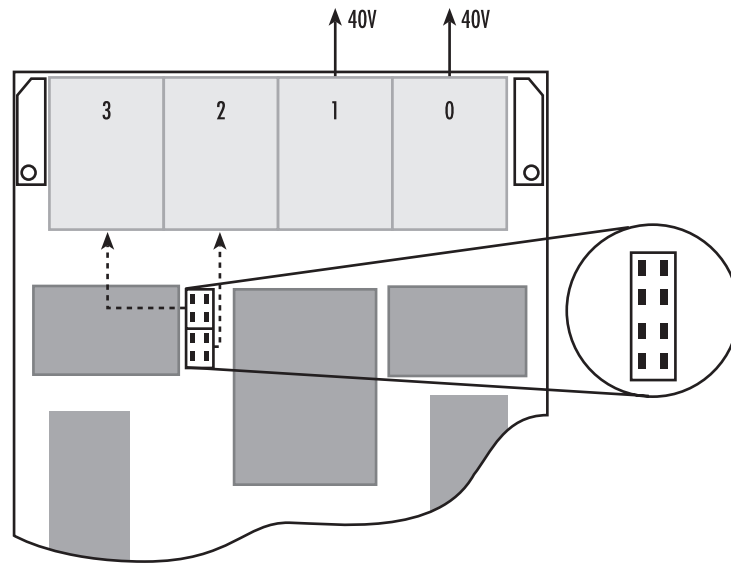

Figure 21. No jumpers set
- No jumpers are set: this setting is used with ports 2 and 3 configured in *USR* mode and connected to NTs as shown in figure 21.